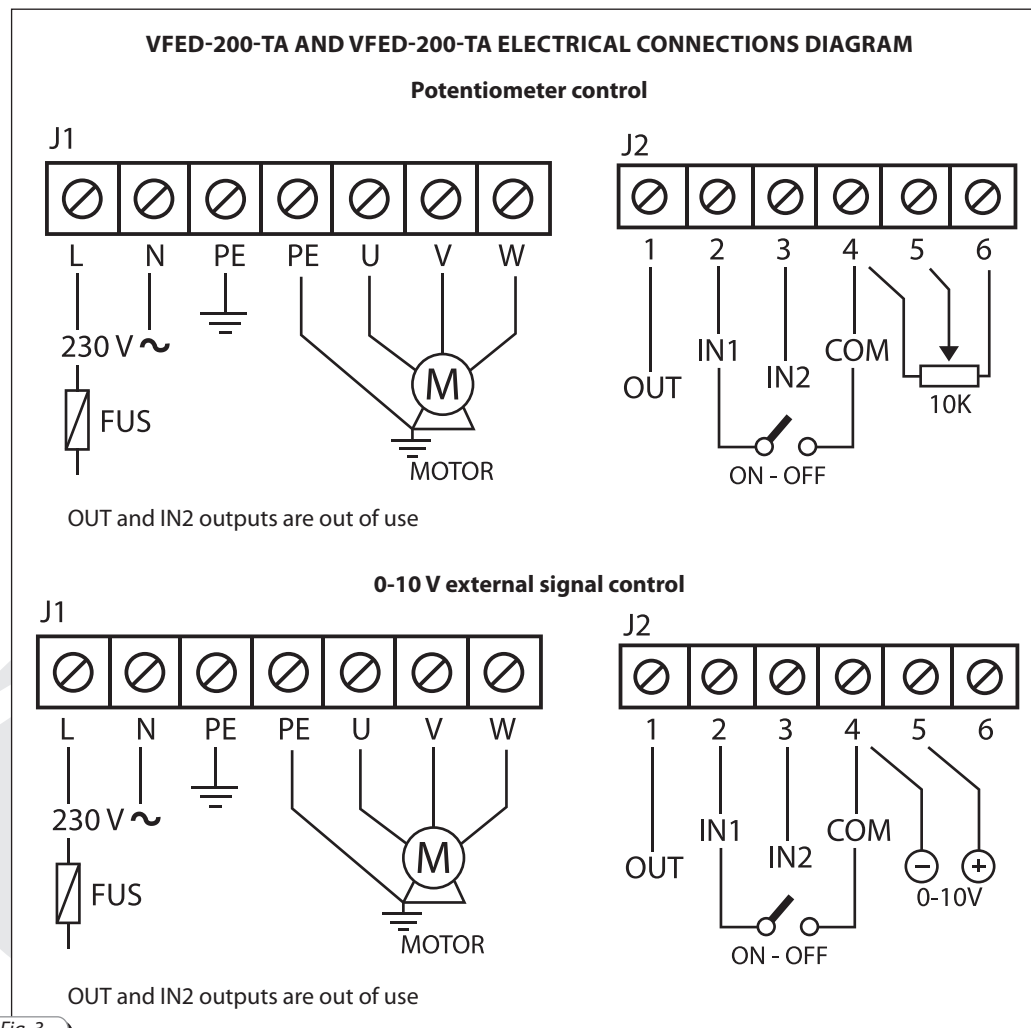
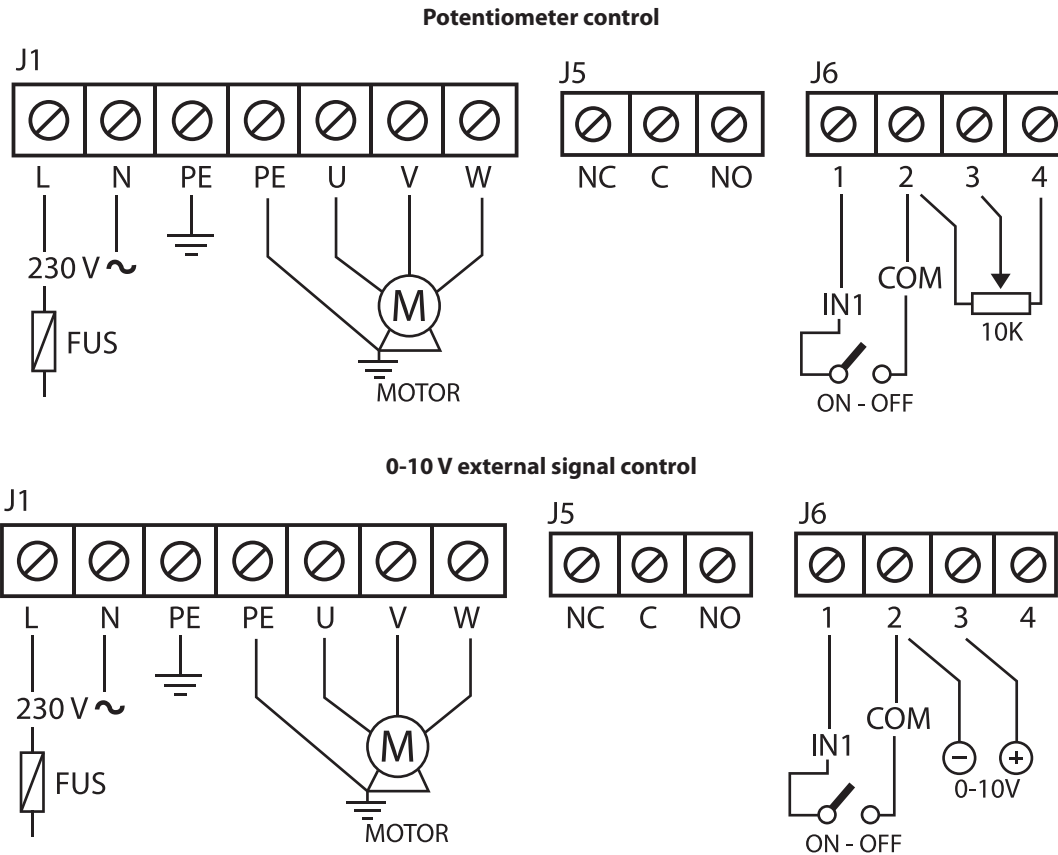

Fig. 3
Fig. 4
- Complete the electrical connections according to the diagram (see Fig. 3 and Fig. 4). External electrical conductors are connected to the unit by means of screw terminals 4 (see Fig. 2). The conductors are routed to the housing through sealed lead-ins 4 (see Fig. 2). The external lead-in (220 V / 50 Hz) must be equipped with an automatic circuit breaker built into the stationary wiring.